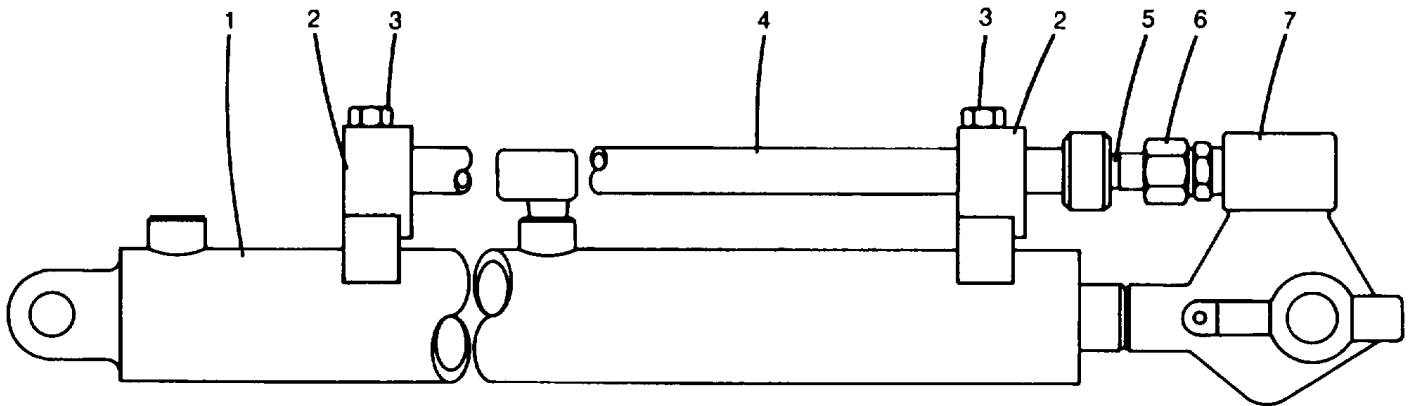

Fig. 1
- (e) Install "O" ring (2) on each end cap. Coat the "O" ring with Cosmolube #2 or equal.
- (f) Insert spring (3) and poppet (4) into each end cap. The poppets are not alike and must be installed as shown in Fig. 1.